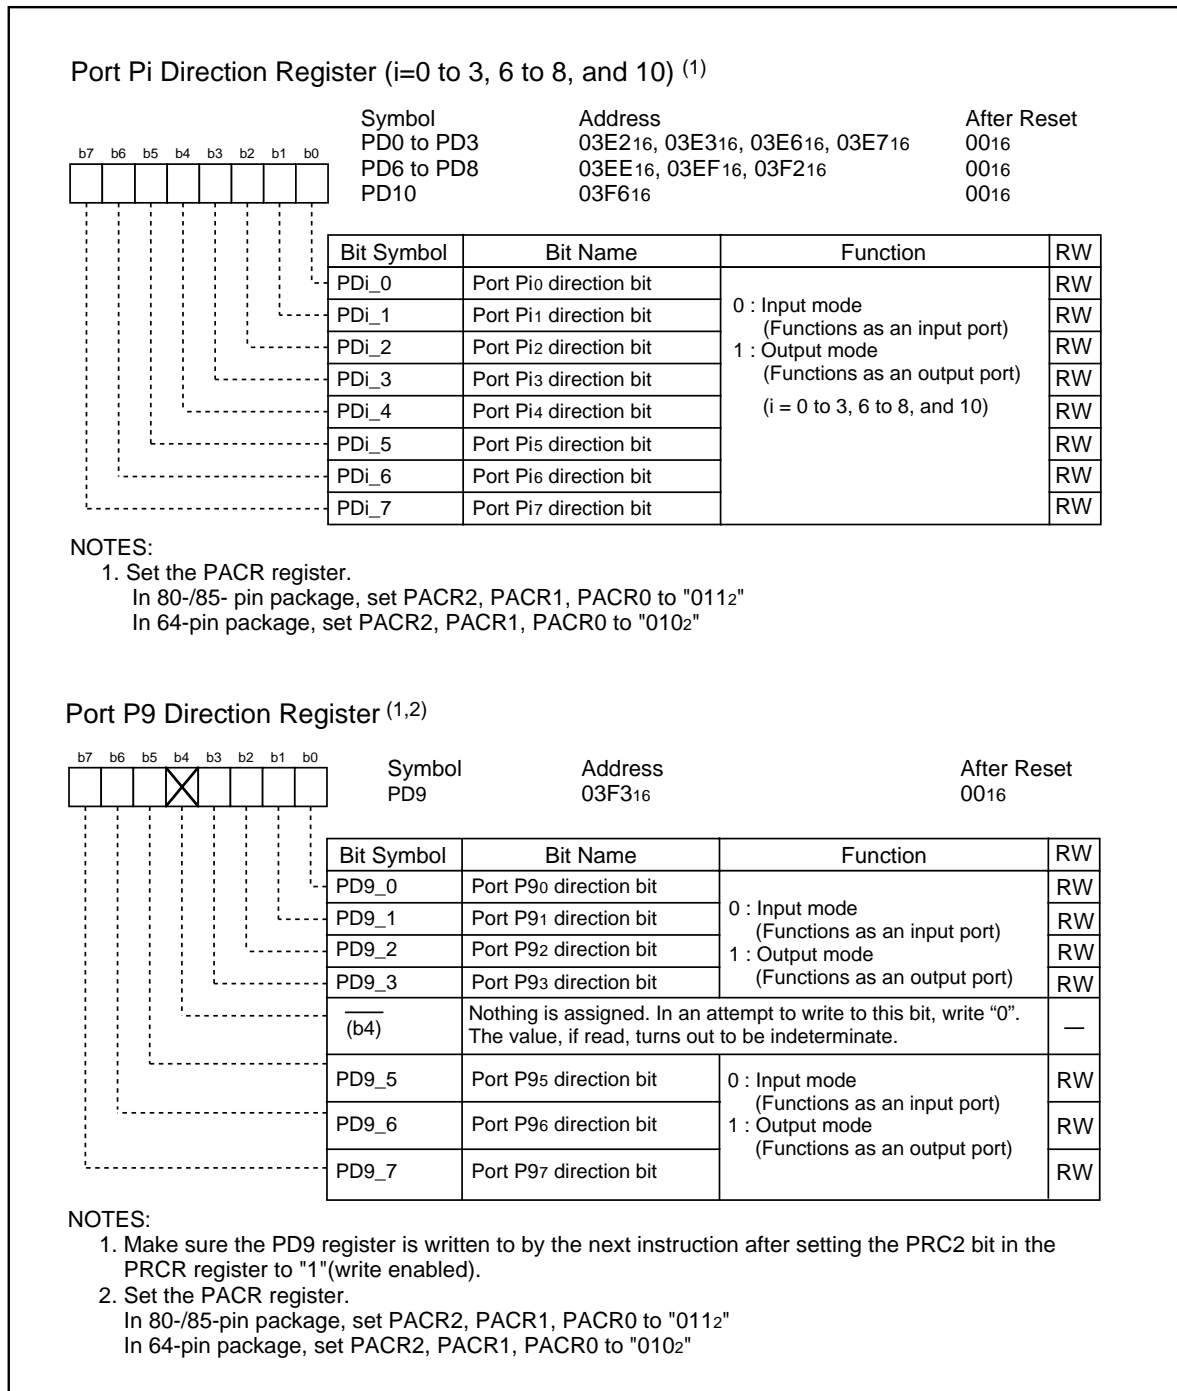

Figure 17.6 PD0 to PD3 and PD6 to PD10 Registers
**Figure 17.6** shows the direction registers.